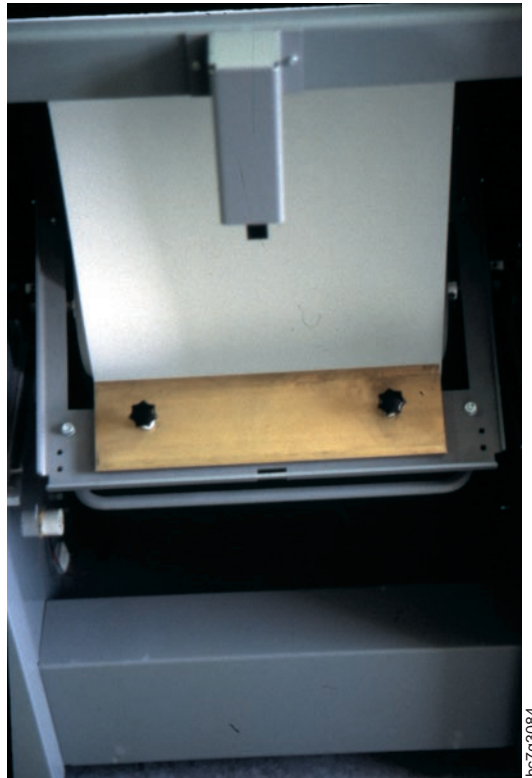

Figure 211. Replace the Two Black Screws
4. Replace the two black screws, as shown in Figure 211.